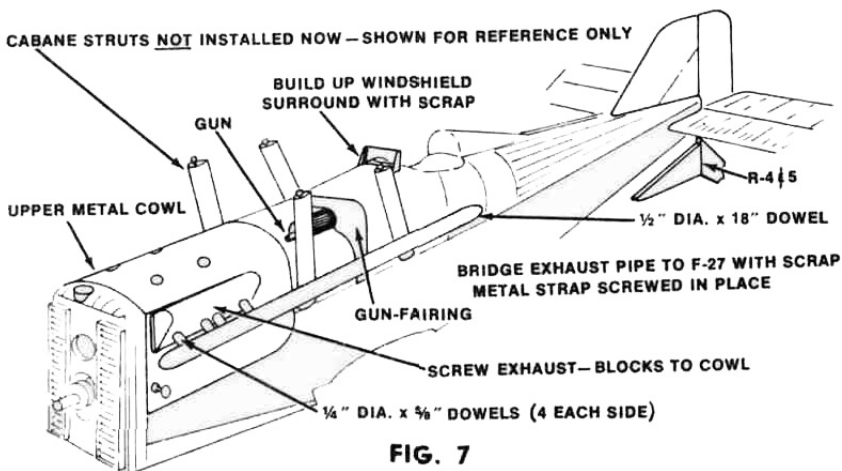

FIG. 7
19. Screw upper and lower metal cowls onto fuselage Shape and sand nose block to correct contours and add dummy radiator-cap (made from scrap) Drill upper cowl for needle valve in required position by temporarily installing engine. While upper cowl is removed from fuselage, shape cylinder fairings from blocks provided, screw to upper cowl and finish making exhaust pipes from hardwood dowels provided Figure 7 shows final appearance